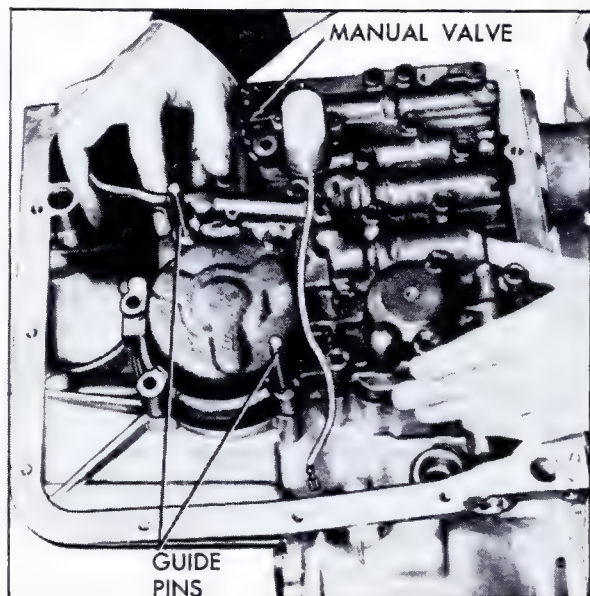

Fig. 7-222 Installing Control Valve Assembly
a. Using two guide pins, Fig. 7-222, install control valve assembly and governor pipe on transmission. Make certain gaskets and spacer do not become mispositioned.